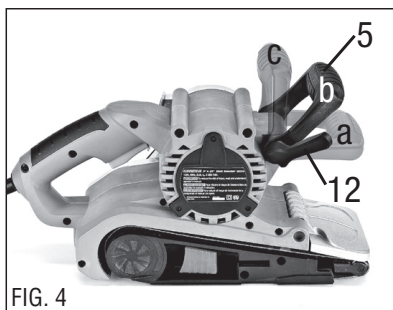

FIG. 4
ADJUSTING FRONT HANDLE (FIG 4)
The front handle (5) can be adjusted to one of three positions: (a) Horizontal, (b) 45° Angled, and (c) Vertical, for better control and comfort under different working positions. See FIG 4.